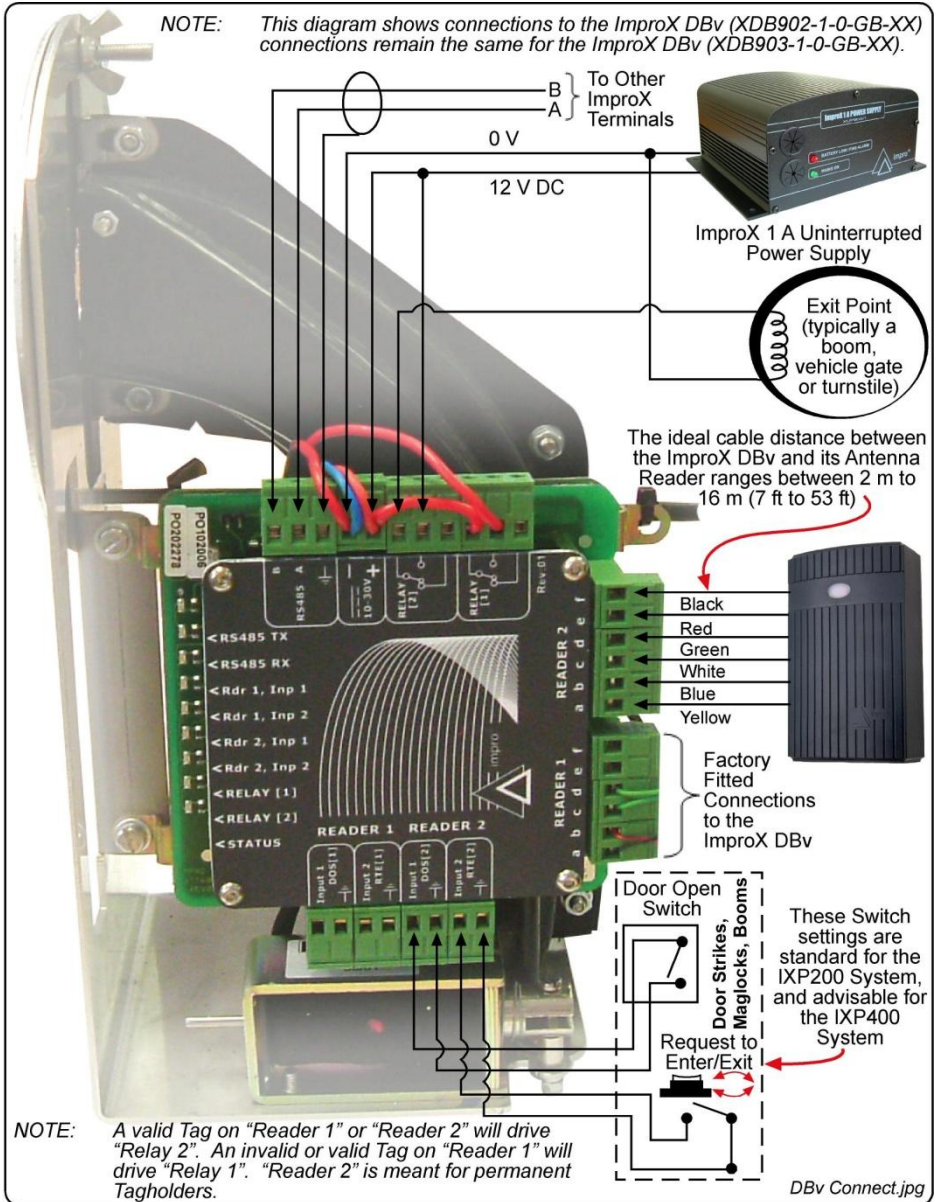

Figure 4: Typical ImproX DBv Electrical Connections
2. Connect the Drop Box as per Figure 4.
5. Connect the Drop Box as per Figure 4.
Figure 4 shows a typical electrical connection diagram for the ImproX DBv.